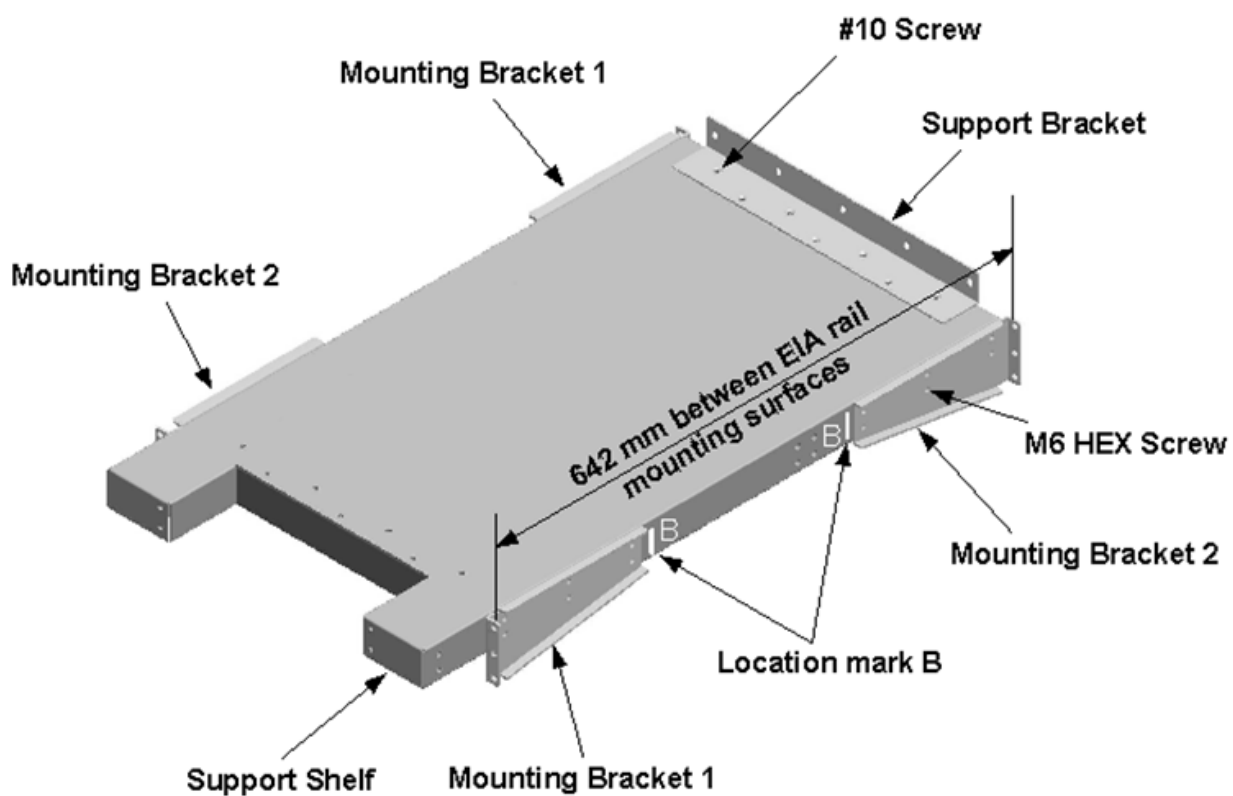

Figure 1-32. Support Shelf Assembly
2. Attach four (4) mounting brackets to the support shelf as shown in Figure 1-32. Align the brackets with "B" marks on a support shelf and fasten with six (6) M6 HEX screws per bracket. Use a HEX socket wrench to tighten the screws. Torque the screws to 120in-lb.
3. Attach the support bracket to the support shelf and fasten with seven (7) #10-32 flat head screws. Torque screws to 30in-lb.